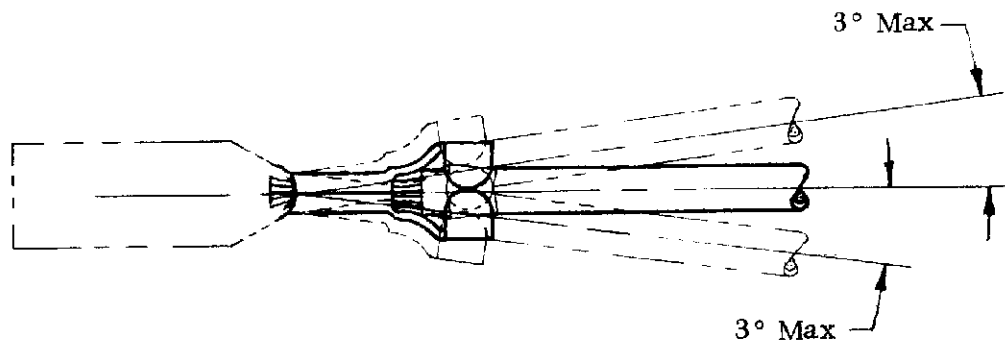

Figure 3
- (2) The side to side bending of the contact shall not exceed the limits specified in Figure 3. Check using gage 92-103186.